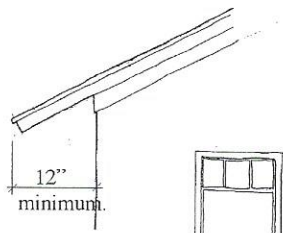

Figure 3b
- Eaves and rakes shall overhang at least 12 inches from the wall face (Figures 3b and 3c), except at traditional "Salt Box"-style building eaves and rakes.